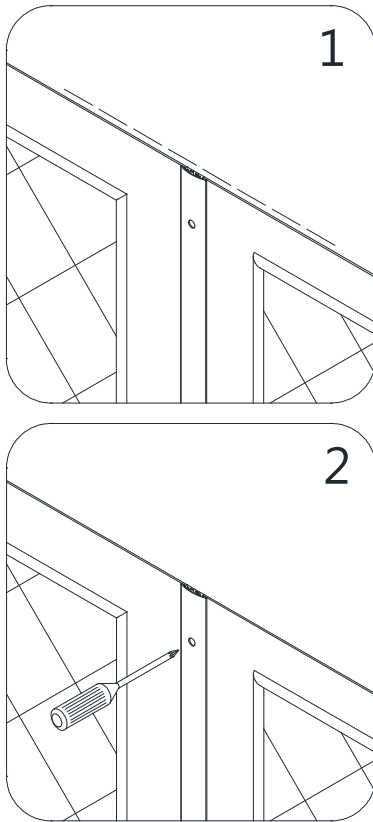
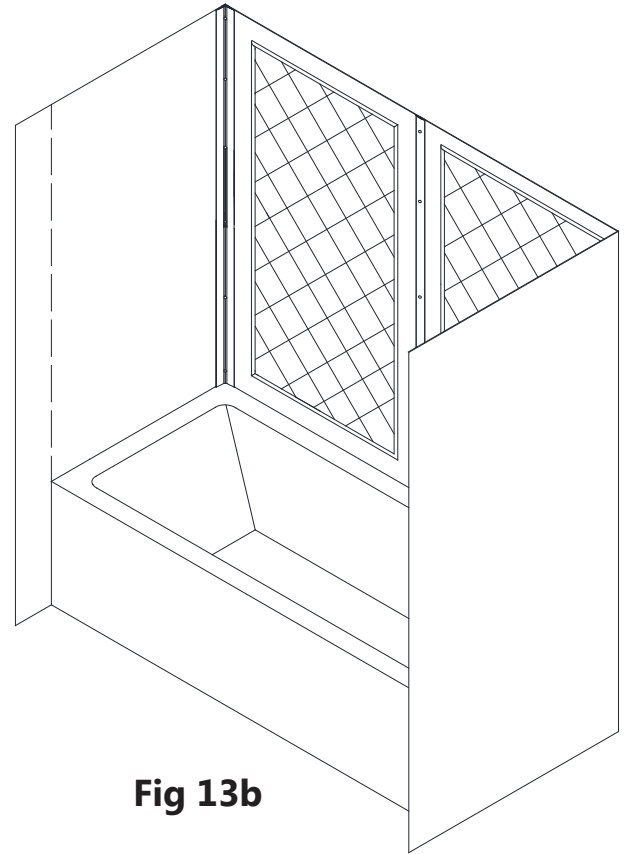

Fig 13a
Fig 13b
13. Align both **Back Panels (#02)** at the top and tighten the screws on the **Center Cover (#05)** to secure this assembly in place. Do not tighten the screws on the corner covers yet. (**Fig 13a and Fig 13b**)